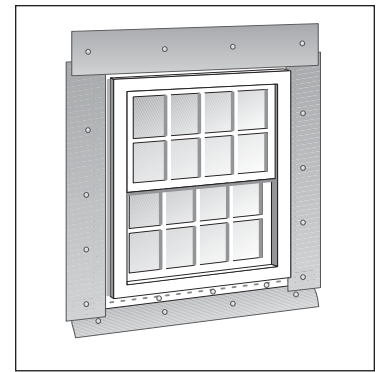

Figure 8
4. Apply the frame head flashing, making sure to overlap the previously installed vertical flashing. The length of the frame head flashing is equal to the frame head width plus the width of the vertical flashing on each side (fig. 8). Caulk or tape the top edge of this section of flashing.